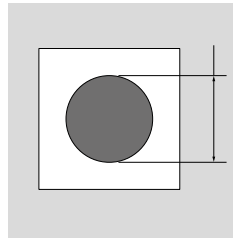

Fig. 11.1.1
- The load may only be lifted at the designated points of the hydraulic jack (foot claw and head). The load must always rest in the centre of the head or the foot claw (Fig. 11.1.1).